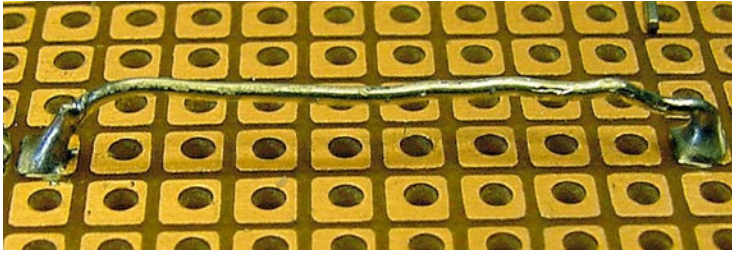

Figure 23-13. Underside of breadboard showing long bare wire to provide a distribution bus that can accommodate many connections of wire
4. Back on the underside, make a long stretch with the bare wire (see Figure 23-13) and solder in place.